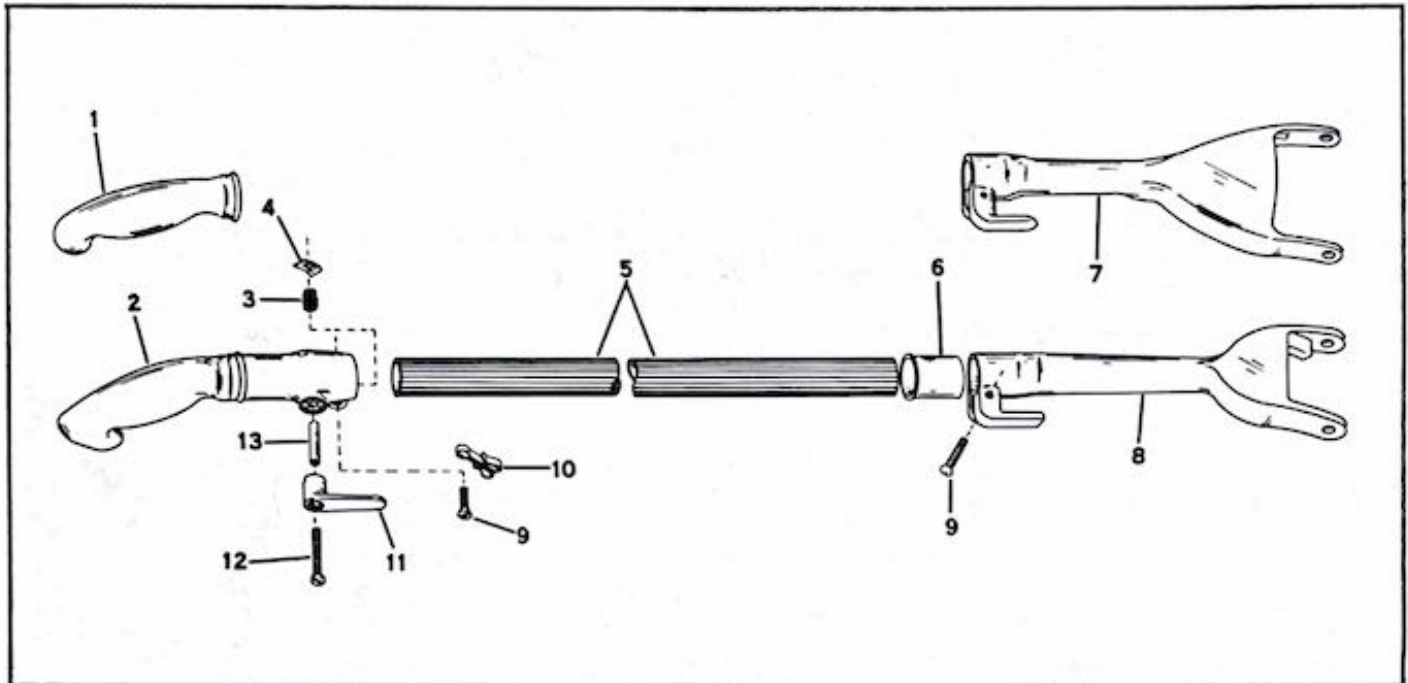
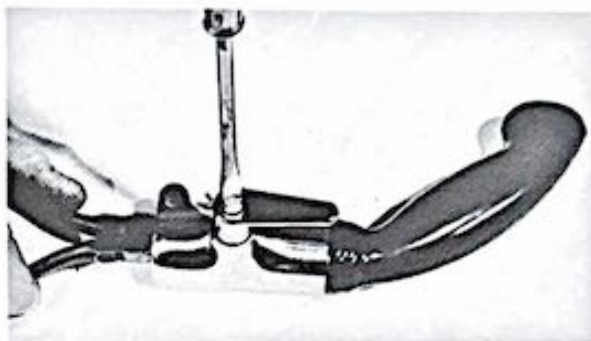

Figure 3-1. Handle Group, exploded view
Figure 3-2. Removing cord swivel hook
b. Apply a small amount of rubber cement to the end of the grip casting; quickly slide the new handle grip plastic (1, fig. 3-1) into position.
a. Loosen the screw (9) that secures the handle grip assembly to the handle tube (5); slide the grip assembly from the end of the handle tube.
b. Use a long nose pliers to hold the swivel hook nut (4) and remove the screw (12) as shown in figure 3-2; remove the cord swivel hook (11, fig. 3-1), nut (4), spring (3), and tube (13).
d. Position the screw (12) and tube (13) on the cord swivel hook (11). Insert the screw part way into the handle grip (2) and position the spring (3) over the end of the screw; use a long nose pliers to hold the nut (4) inside the handle grip aligned with the screw, and secure the parts.
a. Loosen the screw (9, fig. 3-1) that secures the handle fork (7 or 8) to the tube (5); remove the handle fork and handle tube insulator cup (6).
b. Install the handle tube insulator cup (6) on the handle tube (5); position the handle fork (7 or 8) so that the cord hook is aligned with the cord swivel hook of the handle grip (2).